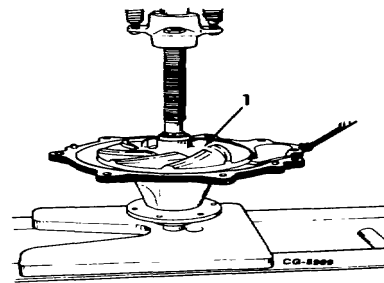
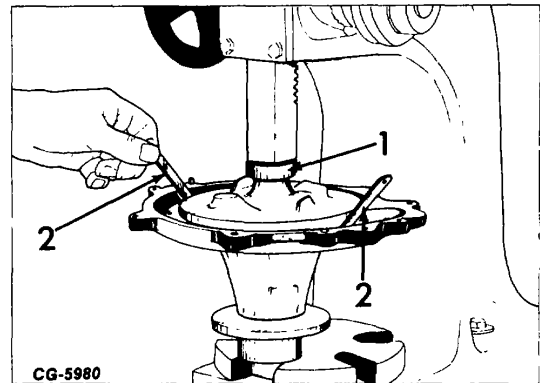

Figure 24. - Installing Impeller
Figure 25. - Measuring Impeller to Housing Clearance
- a. Moisten seal seat (3) and cup O.D. with water before assembly.
- d. Press impeller (2) onto shaft with shaft supported on front end as shown in Fig. 24. Prior to full installing, place two 0.71 mm (0.028 in.) feeler gauges under the impeller as shown in Fig. 25 (for 4 and 8 vane pumps).
1. With feeler gauges in place press impeller until feeler gauges (2, Fig. 25) are snug.
2. Use a sleeve (1, Fig. 25) under press ram as shaft will protrude slightly from impeller.